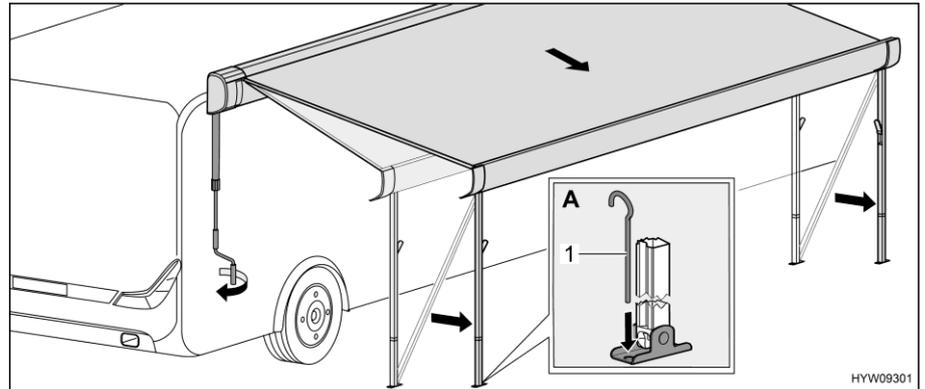

Fig. 48 Bringing awning into end position
- Fix the support legs to the floor with tent pegs (Fig. 48,1) (Fig. 48,A).